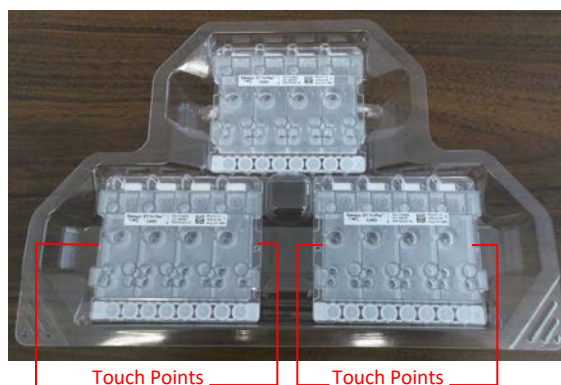

Figure 5-7: Image of CARDS indicating appropriate touch points
5.5.2. Carefully unwrap the outer packaging and remove the CARD using your fingers to clasp the CARD on each side near the middle as shown in Figure 5-7.